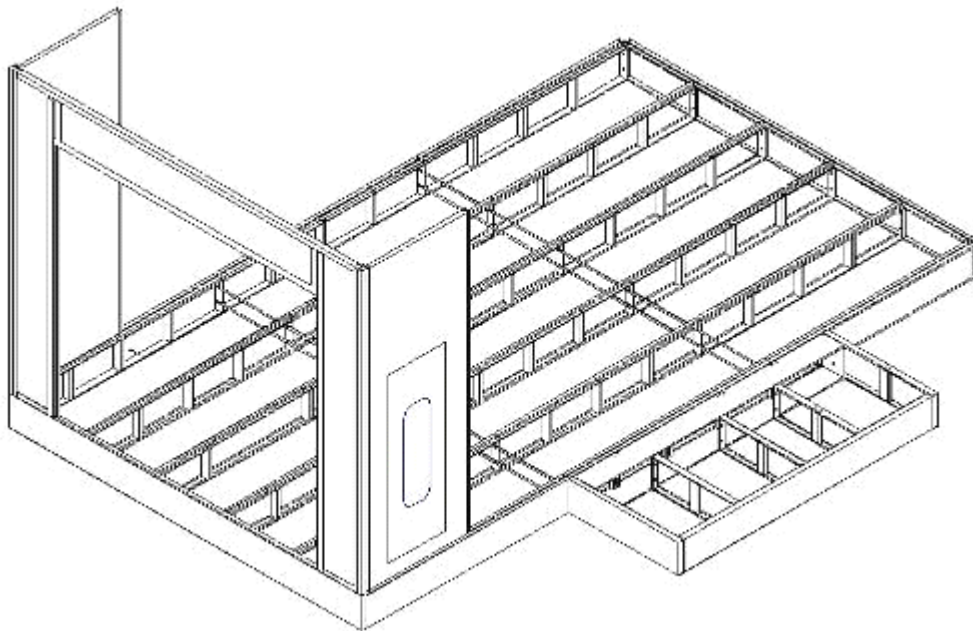

Fig. 3.7
3) Take the Front door frame on to the front panel of the basement by two workers, then one worker holds the door frame and another worker takes the safe door and one wall panel on the other side, connect them to the door frame with nails. At last take four bolts M8*20 to connect the bottom of the door frame and the front panel of the basement, shown in Fig.3.7. So the door frame can stand steadily.